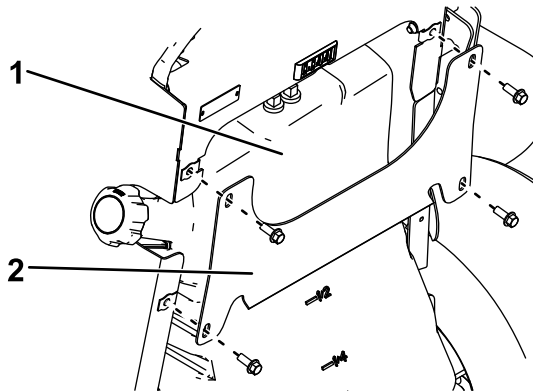

Figure 30
3. Remove the cross bracket (Figure 30).